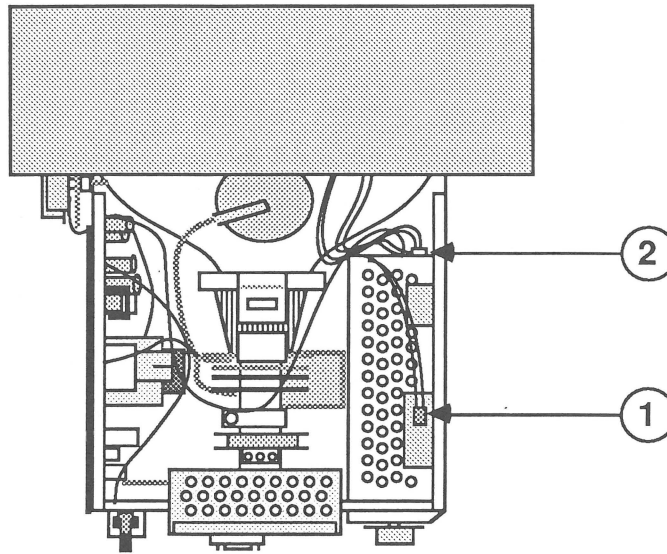

FIGURE 20
7. Disconnect the large two-wire connector from the top of the power supply (Figure 20, #1) and the small four-wire connector from the front side of the power supply (Figure 20, #2).
2. Reconnect the small four-wire connector to the front side of the power supply (Figure 20, #2).
3. Reconnect the large two-wire connector to the top of the power supply (Figure 20, #1). Be sure the white wire is toward the **rear** of the monitor.